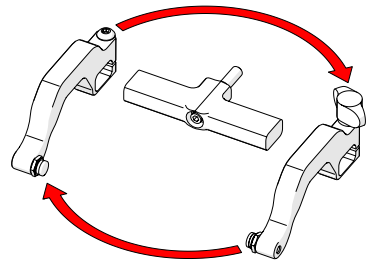

Fig. 83 - Reverse position around yoke
4. Position the removed arms to the opposite sides of the yoke (Fig. 83).